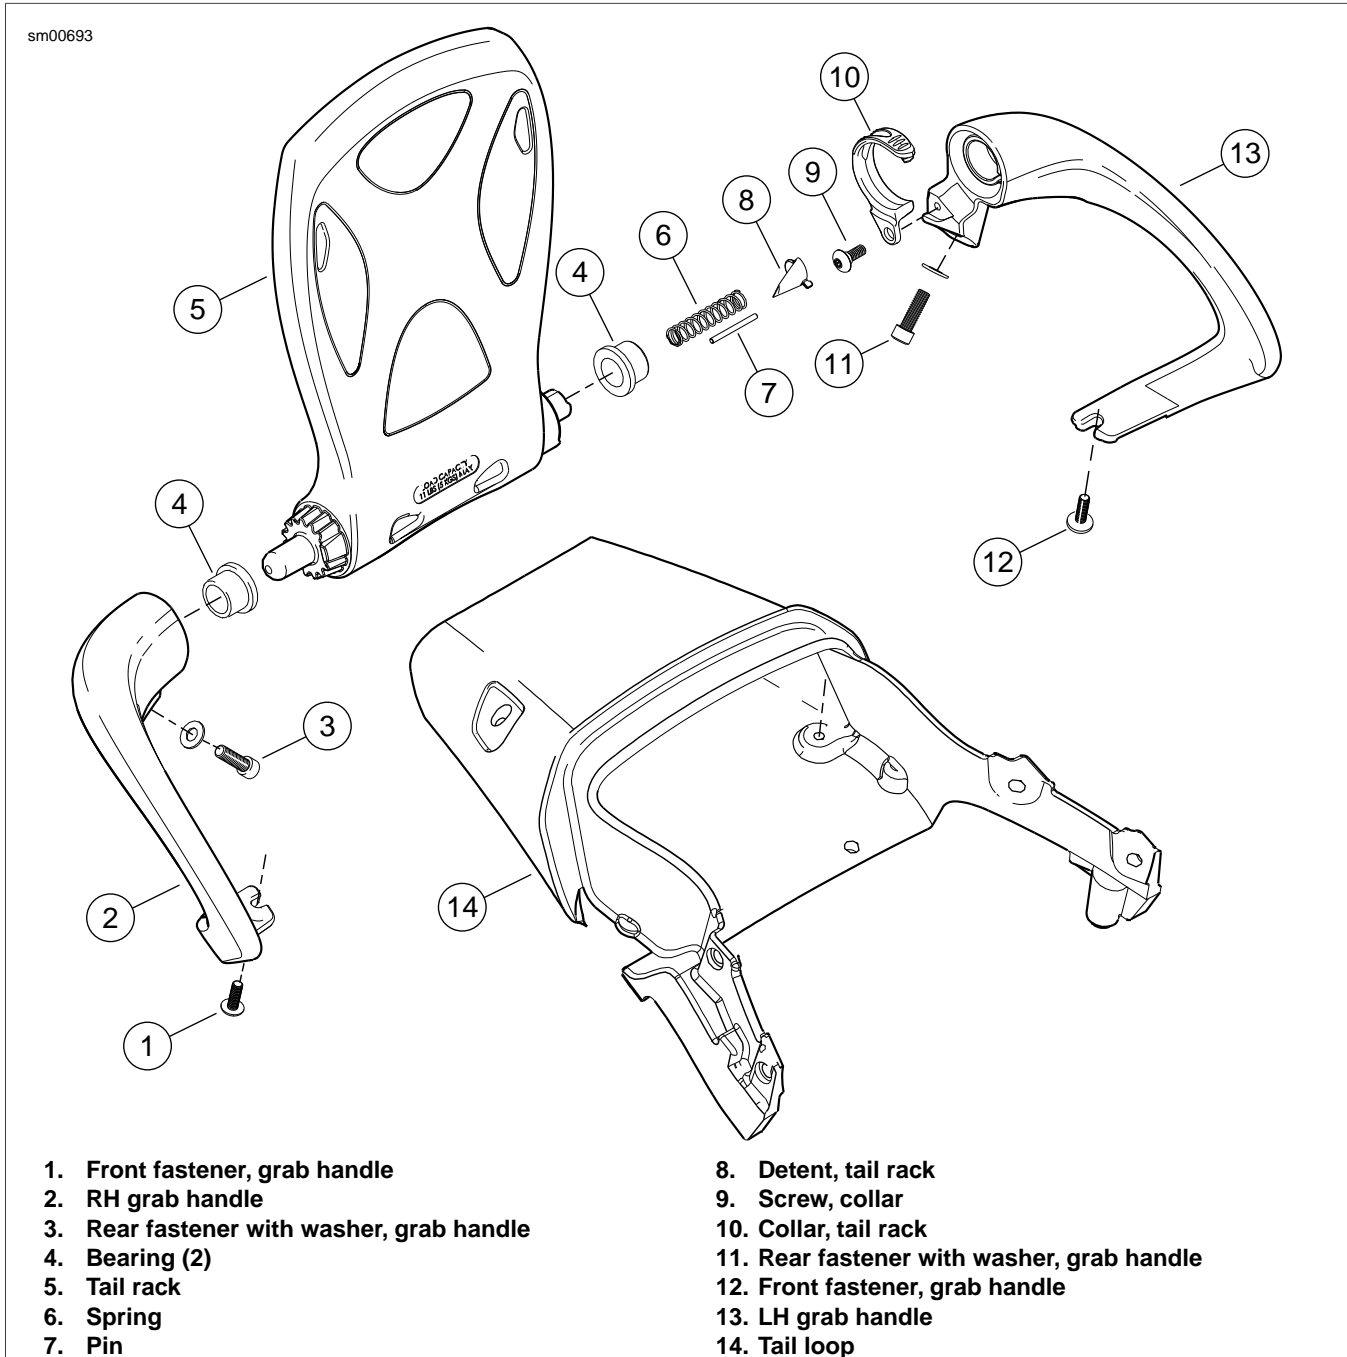

Figure 2-204. Triple Tail, Passenger Backrest and Luggage Rack: Ulysses
- See Figure 2-204. To access fasteners (3, 11), remove the plastic wire cover under the license plate light. Remove the two screws and the two nuts to remove the plastic cover.
- Remove the right hand rear fastener (3).
- Loosen but do not remove the right hand front fastener (1).
- Hold the triple tail rack (5) in place and remove the right hand grab handle (2).
- See Figure 2-204. Remove the fastener (9) and the plastic collar (10) from the left hand grab handle (13).
- To remove the bearings (4) from the grab handles, insert a 3/4 in. blind bearing collet and extract.
- Remove the pin (7) and detent (8).
- See Figure 2-204. Apply LOCTITE 271 (red) to LH and RH grab handle fasteners (1, 3, 11, 12).
- Install the LH grab handle (13) onto the front fastener and install the rear fastener. Do not tighten.
- Slide the spring (6) into the LH grab handle (13).
- Install the plastic collar (10) and tighten the fastener to 36-48 **in-lbs** (4.0-5.4 Nm).
- Holding the rack, fit the RH grab handle (2) onto the front fastener and install the rear fastener. Do not tighten.